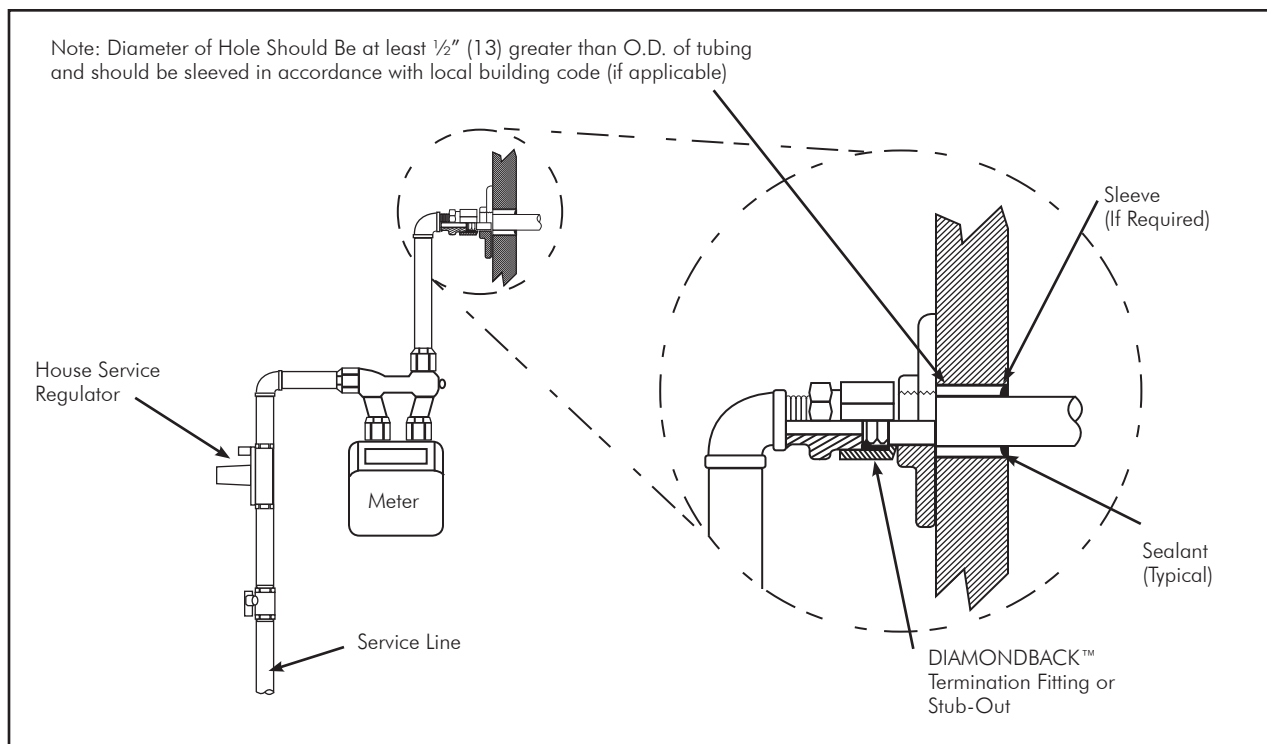

FIG. 4-17 Meter Connection for Pipe Supported Meter
- Meters which depend on the service and house piping for support shall not be directly connected outdoors with DIAMONDBACK™. As shown in **FIG 4-17 & 4-18**, steel pipe shall be used to connect the meter outlet to the Outdoor Termination Fitting or Stub-Put on the exterior wall of the structure or to a transition from pipe to DIAMONDBACK™ located inside the structure.